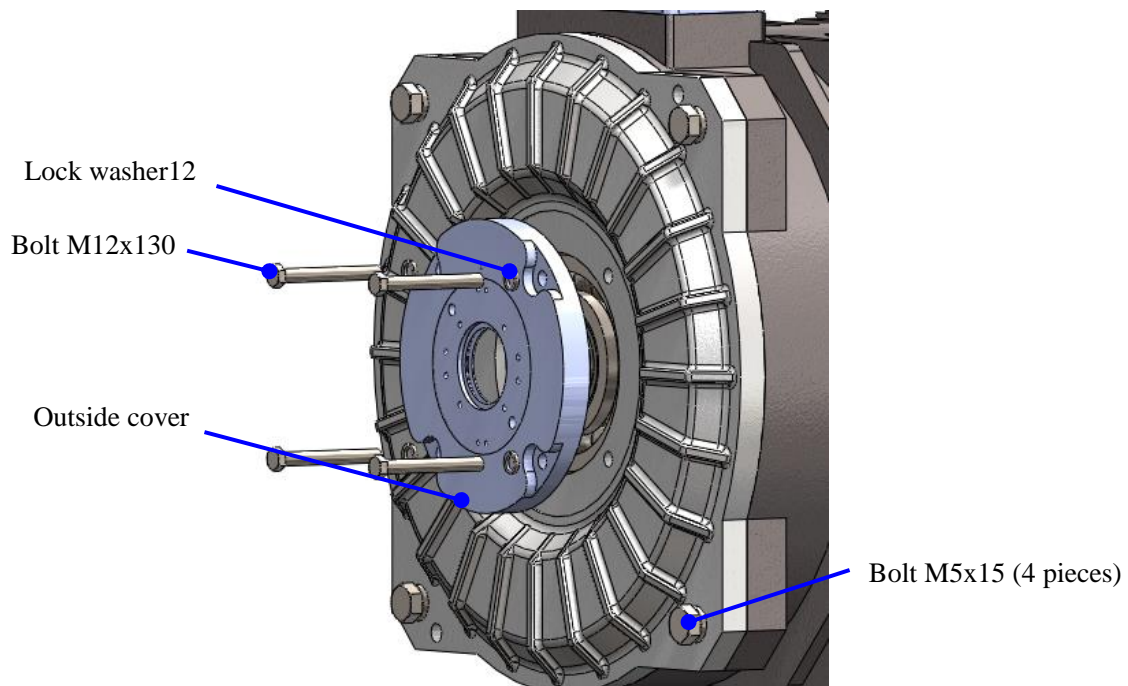

Figure 96: Remove Outside Cover
3. Loosen the bolt M12x130 (4 pieces) and lock washer¹² with the end wrench, then remove the outside cover and the wavy spring. See Figure 96.